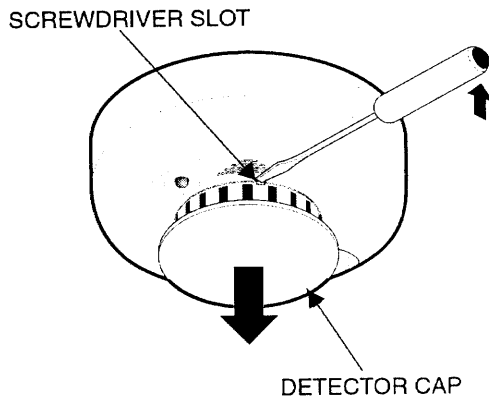

Figure 5. Removing the Detector Cap
3. Use a flat-blade screwdriver to pry off the detector cap. See Fig. 5.